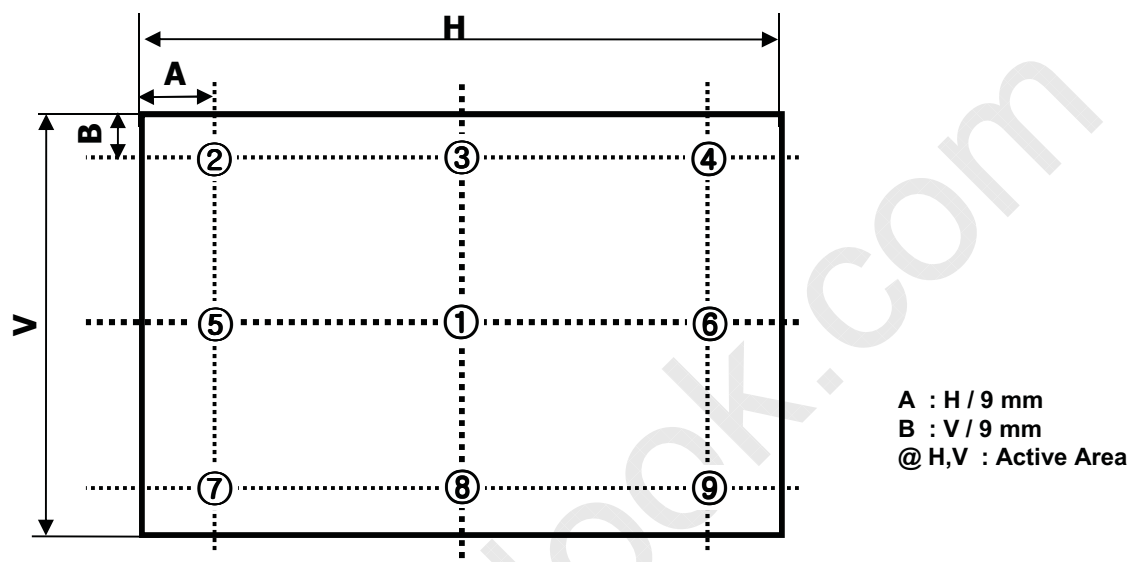

FIG. 2 9 Points for Luminance Measure
n = The Postion number (1,2,3,4,5). For more information, see Fig 2.
2. Surface luminance are determined after the unit has been 'ON' and 1 Hour after lighting the backlight in a dark environment at $25 \pm 2^\circ\text{C}$. Surface luminance is the luminance value at center 1-point across the LCD surface 50cm from the surface with all pixels displaying white. For more information see the FIG. 2.
For more information, see the FIG. 2.